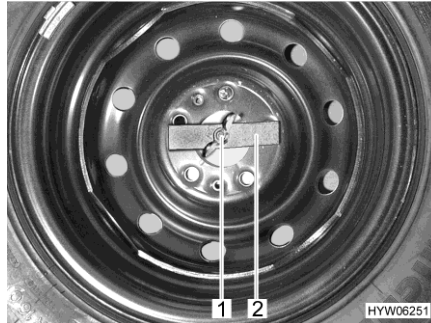

Fig. 187 Spare wheel in the rear storage space
- Loosen the wing nut (Fig. 187,1) and unscrew it.
- Remove the pad (Fig. 187,2).